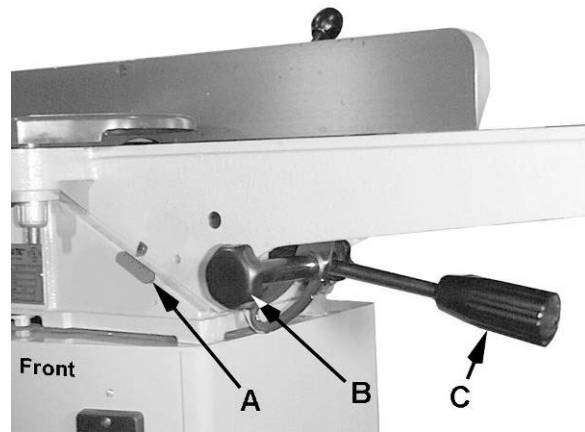
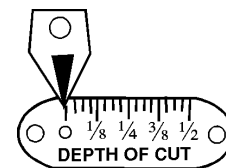

Figure 16
Figure 17
Refer to Figures 16 – 18.
1. Loosen the rear *thumb screw* (D) and the *lock knob* (B).
2. **Raise or lower** the *height adjustment handle* (C) until the *scale* (A, Fig. 16 and Figure 17) reads approximately the desired depth of cut.
3. Turn the locking handle (B) until it is snug.
4. **Rotate** the *height adjustment handle* (C) until the scale reads exact. Clockwise raises the table, counterclockwise lowers the table.
**Note:** The height adjustment handle (C) has a fine adjustment of 1/16" travel per rotation.
5. When set, retighten the *thumb screw* (D).
**Helpful Hint:** Occasionally you will find that you cannot set the coarse adjustment all the way up to zero or all the way down to 1/2" on the *Depth of Cut* scale (Figure 17) when raising or lowering the handle (C, Fig. 16). When this happens:
With the *lock knob* (B, Fig. 16) unlocked, *rotate* the *height adjustment handle* (C, Fig. 16) a few times, then raise or lower it. Once you are able to reach the zero or 1/2" setting (Figure 17), you will again be able to swing the handle (C) through the full range.